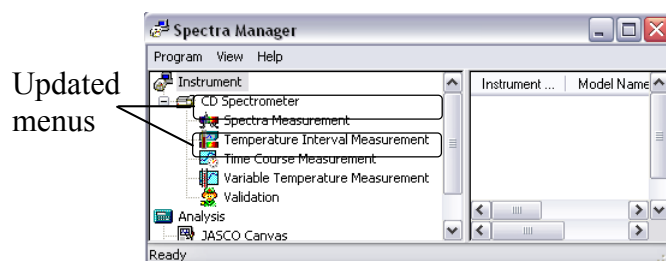

Figure 2.5 [Spectra Manager] window after installation
- (6) Install the contents of the “CDTempCtPrg” folder.
- (7) Close the [Administrative Tools] and [Spectra Manager] windows and reopen the [Spectra Manager] window. The [Variable Temperature Measurement] and [Temperature Interval Scan Measurement] menus are updated as shown in Figure. 2.5.